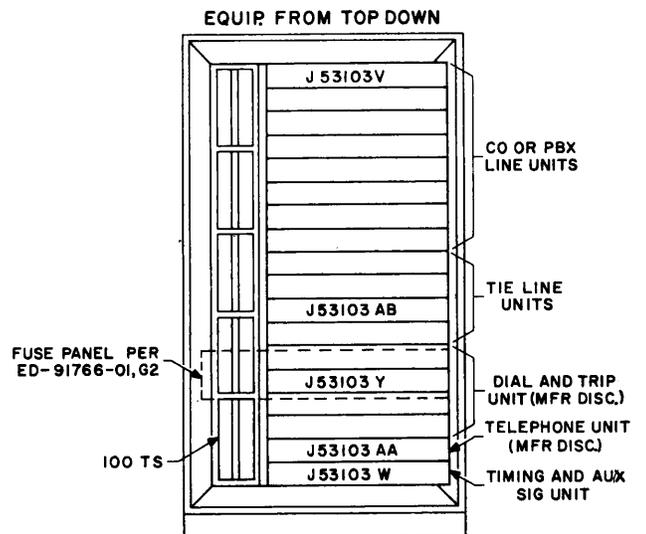

Fig. 1 – Typical Cabinet Arrangement
- Fig. 1 shows typical unit arrangement.